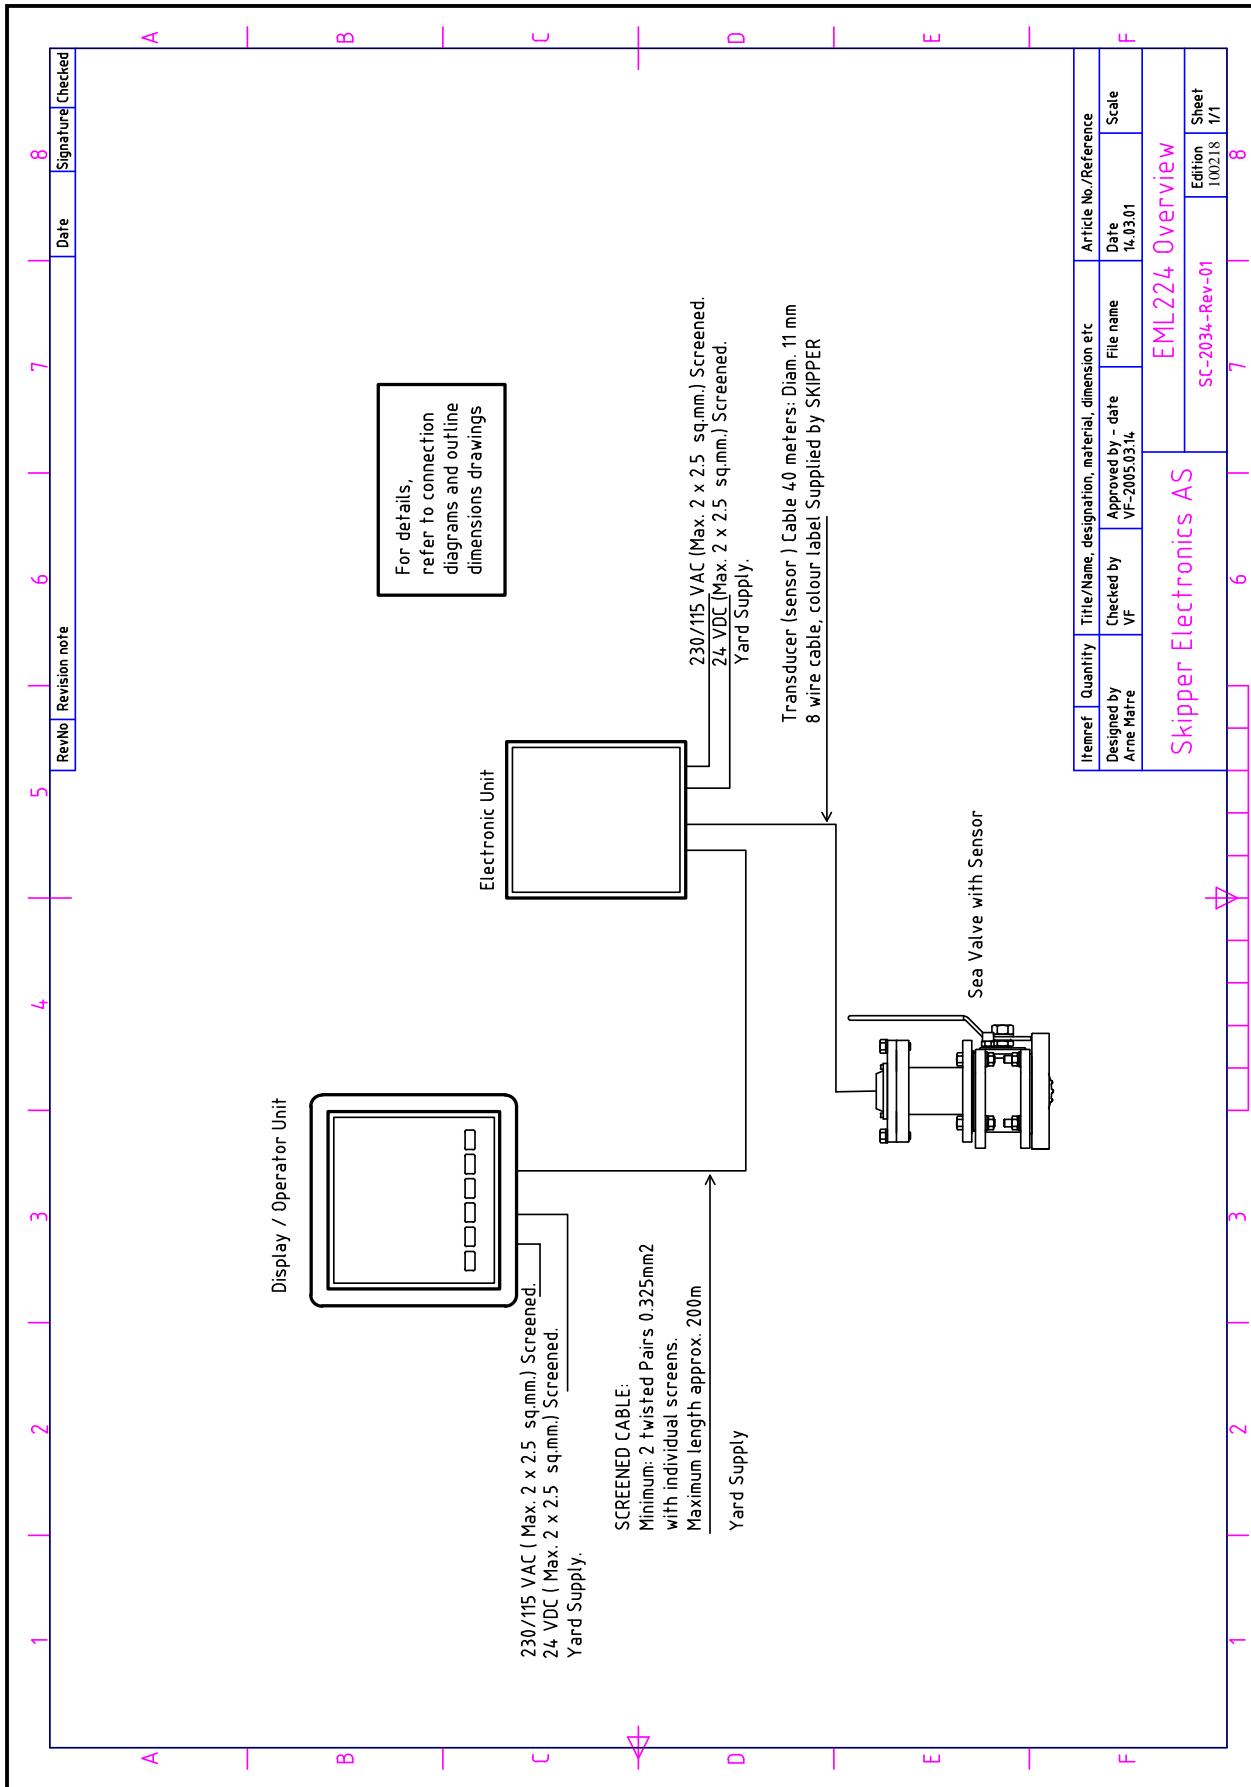

Fig. 11.1. EML224 System overview
- Fig. 11.1 EML224 System overview. See “Fig. 11.1. EML224 System overview” on page 60.